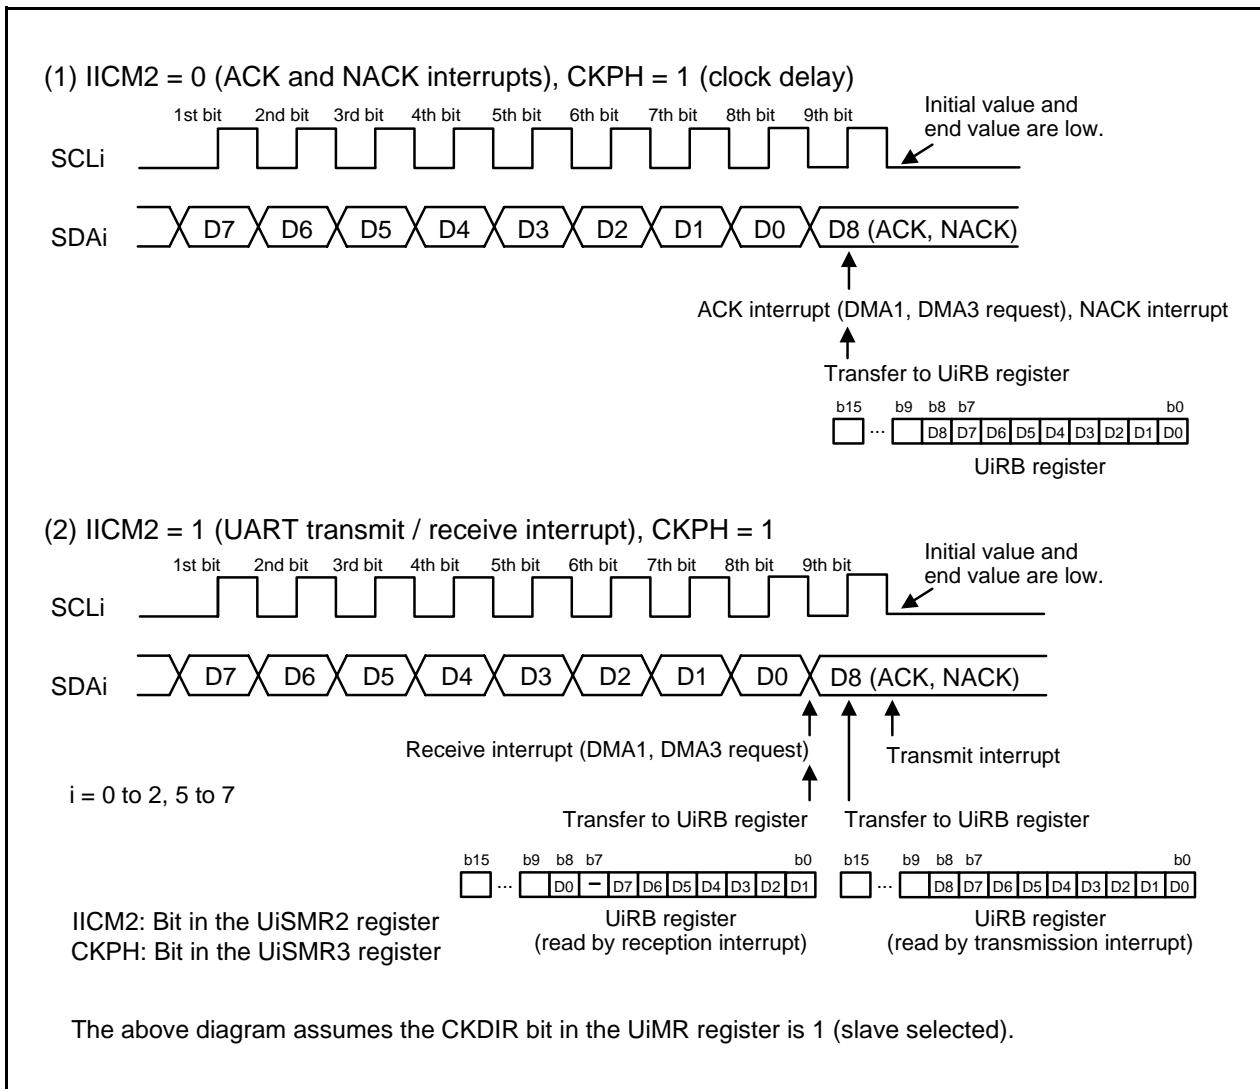

Figure 19.20 Transfer to UiRB Register and Interrupt Timing
In I²C mode, functions and timings vary depending on the combination of the IICM2 bit in the UiSMR2 register and CKPH bit in the UiSMR3 register. Figure 19.20 shows Transfer to UiRB Register and Interrupt Timing. See Figure 19.20 for the timing of transferring to the UiRB register, the bit position of the data stored in the UiRB register, types of interrupts, interrupt requests, and DMA request generation timing.
2. See Figure 19.20 "Transfer to UiRB Register and Interrupt Timing".
Data transmission/reception in I²C mode uses the transmit/receive clock as shown in Figure 19.20 “Transfer to UiRB Register and Interrupt Timing”. The clock speed increase makes it difficult to secure the required time for ACK generation and data transmit procedure. The I²C mode supports a function of wait-state insertion to secure this required time and a function of clock synchronization with a wait-state inserted by other devices.
Read the received data from the UiRB register. When the clock delay function is used, data transfer to the UiRB register occurs twice and each UiRB register value is different. Refer to Figure 19.20 "Transfer to UiRB Register and Interrupt Timing" for details.